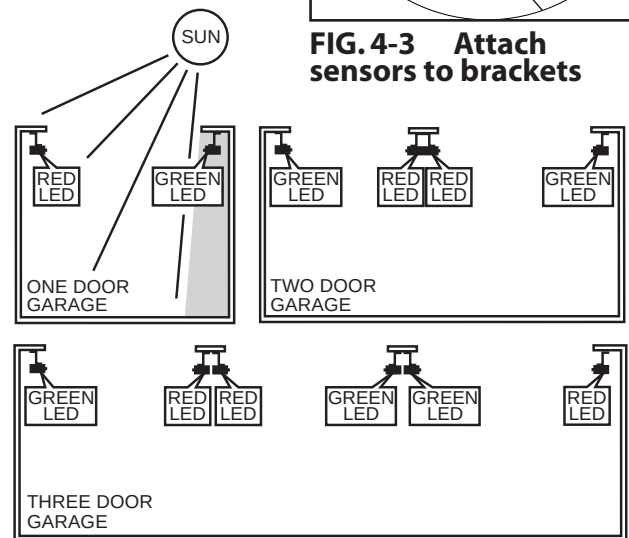

FIG. 4-4 Safe-T-Beam® source and sensor locations
- Determine which side of garage receives most direct sunlight (Fig. 4-4).
- Red LED should always be on sunny side whenever possible (Fig. 4-4).
- Place source and sensor modules on adjacent doors facing in opposite directions (Fig. 4-4).